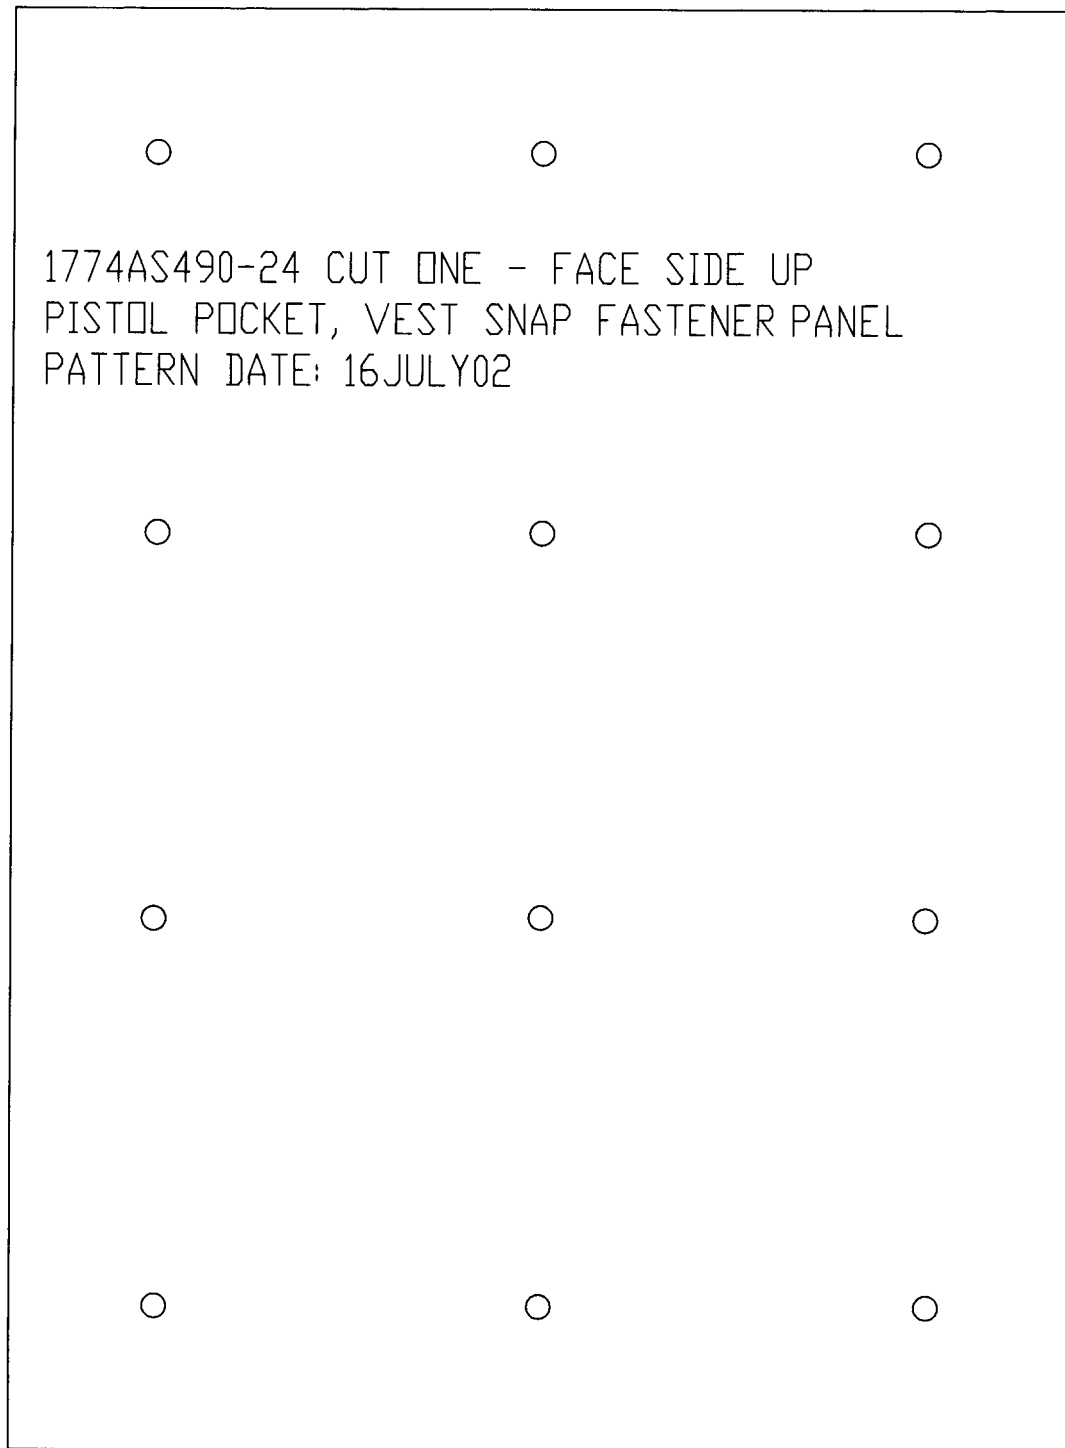

Figure 6-34F. Pistol Pocket Vest Snap Fastener Pattern
2. Place pistol pocket vest snap fastener pattern (figure 6-34F) on Herculite fabric, trace and cut out the panel.